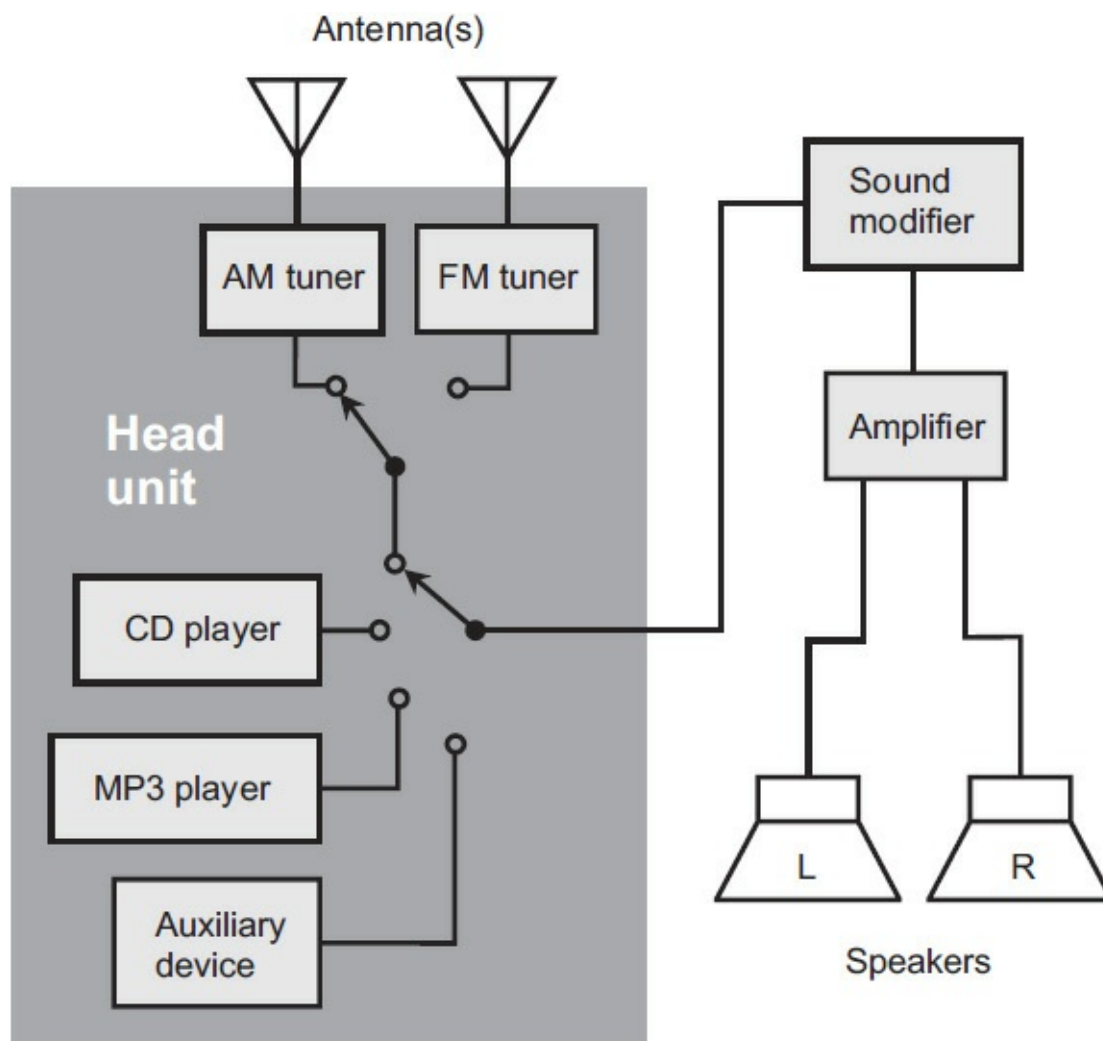

FIGURE 5-14 Components of a high-end automotive hi-fi sound system.
Figure 5-14 is a block diagram of a complete automotive sound system. Let's start with the items inside the gray-shaded box. The combination of all these devices forms the *head unit*. It gathers signals from the radio, and/or converts data from media, such as compact-disc (CD) players, MP3 players, or tape cassettes, into audio signals. When you buy a vehicle, it will have a factory-installed head unit that makes up the heart of the so-called *stock system*. My venerable "Old No. 7" pickup has a head unit that includes an AM/FM radio and a compact-disc (CD) player. That's all it has and that's all I need because I don't drive very much (and would just as soon never drive at all). A factory-installed head unit sits in the dashboard, near the center, so that the driver and the front-seat passenger
The amplifier follows the sound modifier (if any) in an audio system, as shown in Fig. 5-14. The amplifier has two channels, as do the sound modification system and the head unit. These channels are normally called “left” (L) and “right” (R). Both channels should provide the peak power level that you desire. The average power level will be considerably less than the peak level, but in any case, a good amplifier will place a considerable load on the vehicle's electrical system.